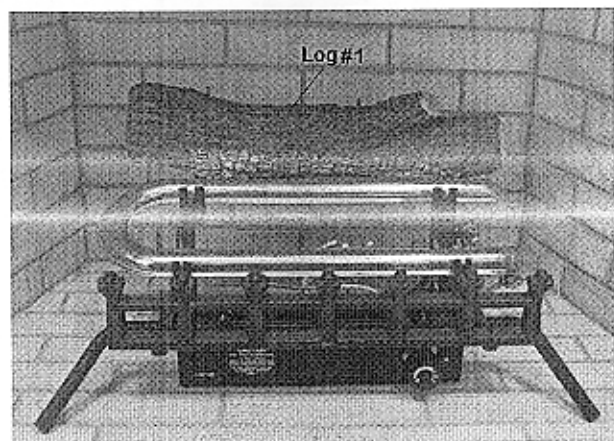

Figure 18 - Installing Log #1
2. Insert the pins on the back of log #1 into the hole on the log bracket on the back of grate base, and tighten the screws (see Figure 18).